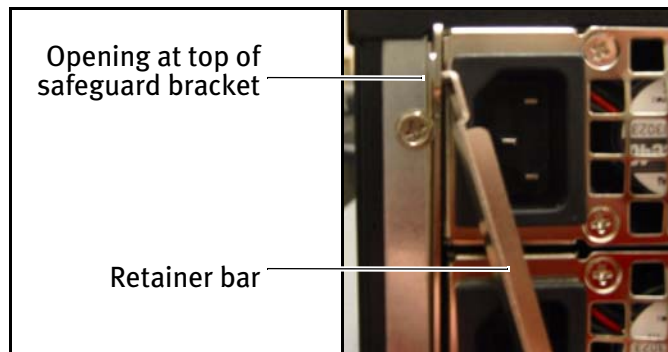

Figure 4 Reattach the retainer bar to the safeguard.
3. Insert the end of the retainer bar into the opening at the top of the safeguard bracket, as shown in Figure 4.